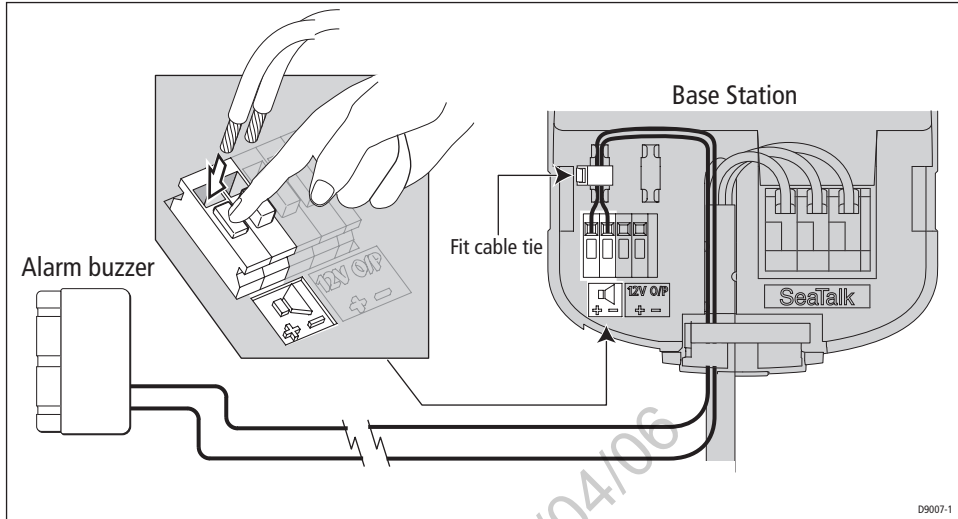

Figure 7 - Alarm buzzer connections
2. Temporarily connect the alarm buzzer to the Base Station, as described in *Figure 7*.
3. Temporarily connect the Master Base Station to the alarm buzzer (see *Figure 7*).